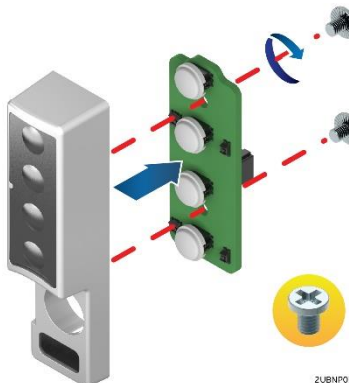

Figure 59. Removing the front control panel board
3. Remove the two screws from the back of the front control panel board and remove the board as pictured in Figure 59.